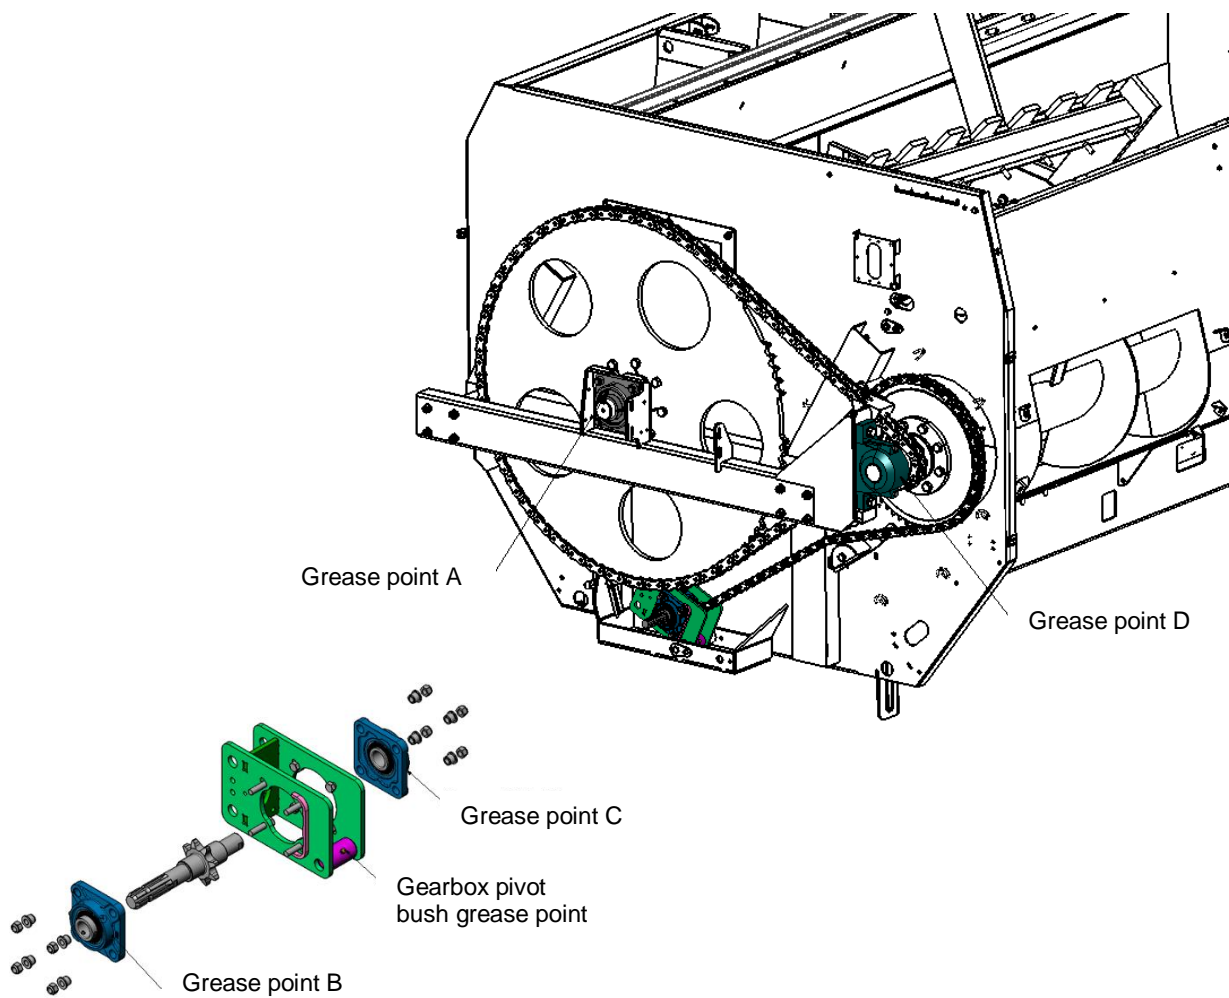

Figure 12: Front grease points
- a. The main rotor bearing at the front of the KEENAN MechFiber (A, Figure 12).
- b. Two main bearings on the front and rear of the input drive shaft (B and C, Figure 12).
- c. The auger bearing at the front of the KEENAN MechFiber (D, Figure 12)